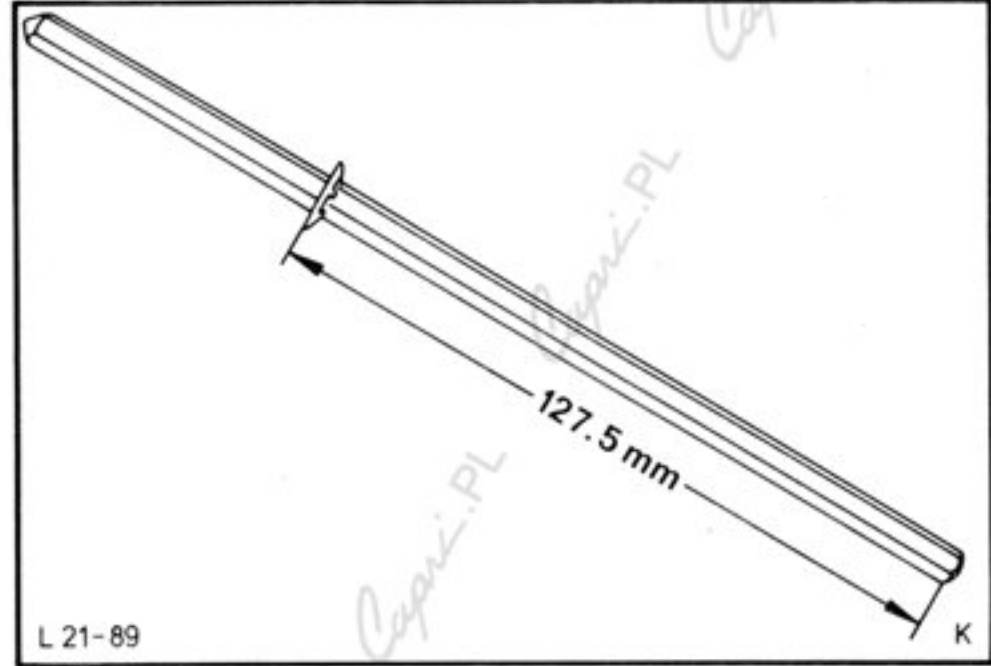

Fig.64. Oil pump drive shaft.
56. Insert oil pump drive shaft with retaining plate fitted (note direction and spacing) with pointed end towards distributor, Fig.64.